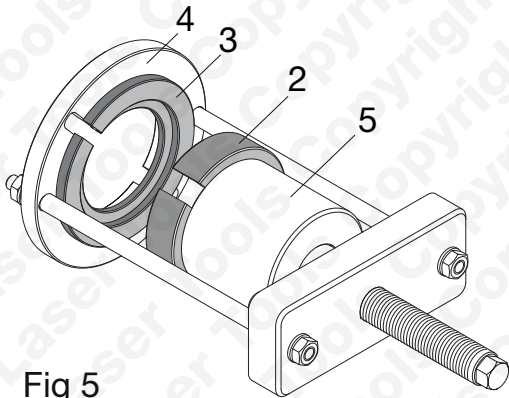

Fig 5
- The new bush must be positioned correctly in ALL directions; for this reason ensure the new bush is positioned in the same position that the old bush came out from. The use of the Stepped Split Ring (2) ensures the new bush is inserted to the correct depth.
- To fit the new bush first assemble the tool components shown in **Fig 5** and ensure the force screw is clean and well lubricated.